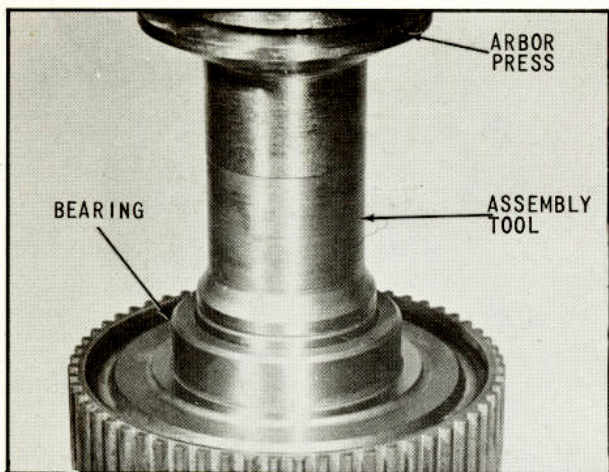

Fig. 46 Pressing Clutch Bearing in Place
42. Place aligned parts and assembly tool in place on arbor press. Place bearing over protruding drive gear and squarely into bore at front of forward clutch cylinder; press bearing down with arbor press until bearing is fully seated on shoulder and snap ring grooves in front of bearing are exposed (Fig. 46).